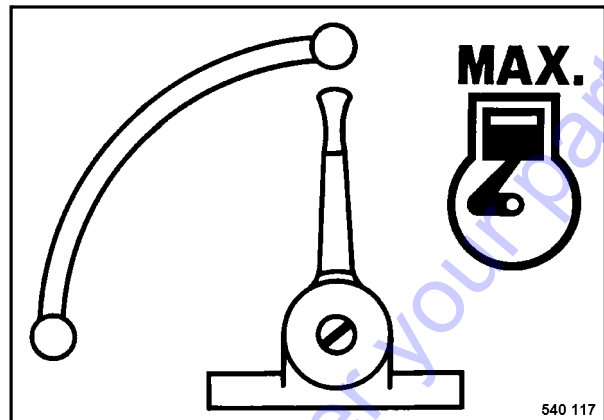

Fig. 3
- Set the throttle lever (Fig. 3) to "MAX"-position.